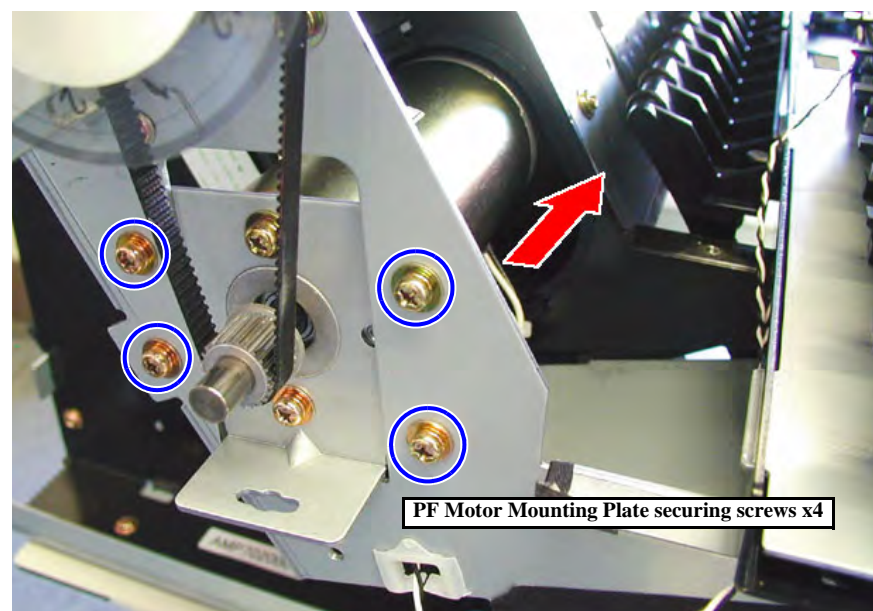

Figure 4-51. Removing the PF Motor.
3. Remove the four screws securing the PF Motor Mounting Plate. (See Figure 4-51)